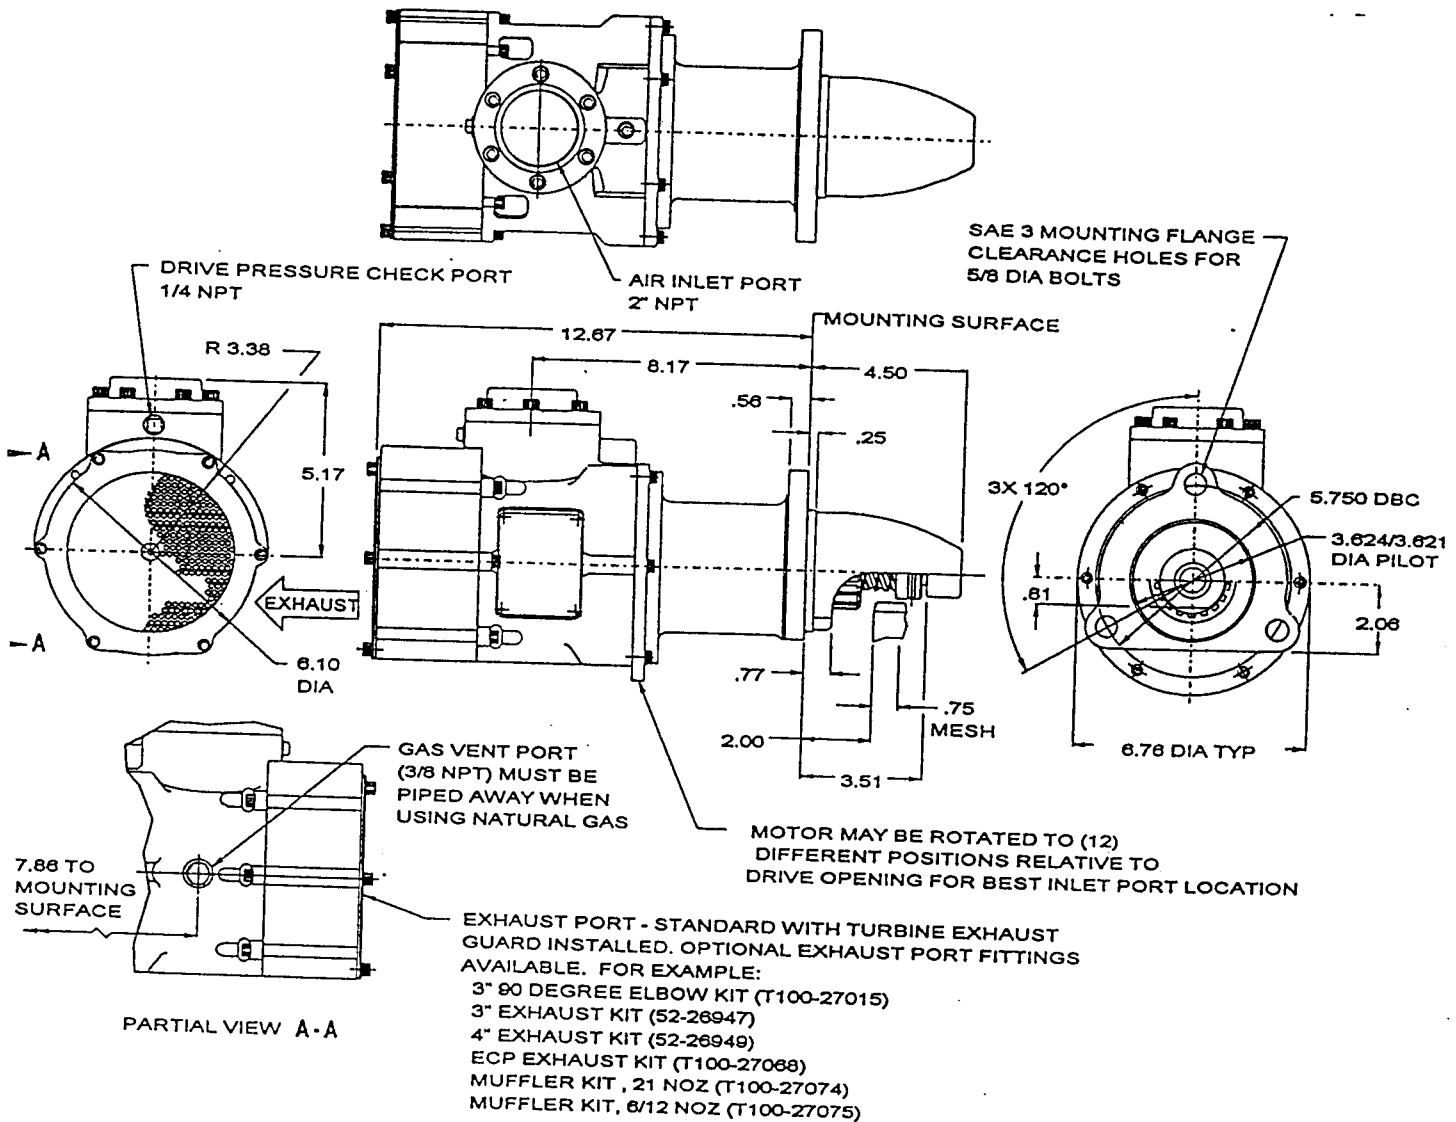

Figure 3. Model T106F/T112F TURBOTWIN
Figure 3 shows the Models T106F/T112F which are 17.4" long overall and 8.2" in height. This model weighs 47 pounds. The turbine housing diameter is 6.8". The rotary inertia of all rotating components is _____ lb-in².
Refer to Figure 3. The drive housing may be rotated to 12 different positions relative to the inlet port. This task should be completed prior to installing the starter on the engine. The following procedure describes how to accomplish this. First, remove the (6) 1/4" X .75" long screws which attach the drive housing to the turbine housing. Next, rotate the drive housing without removing it from the starter to the desired position. Clean the screws with Loctite Safety Solvent or equivalent. Reinstall the (6) screws using Loctite #290 Threadlocker adhesive or equivalent. Torque the screws to 10 lb-ft maximum.